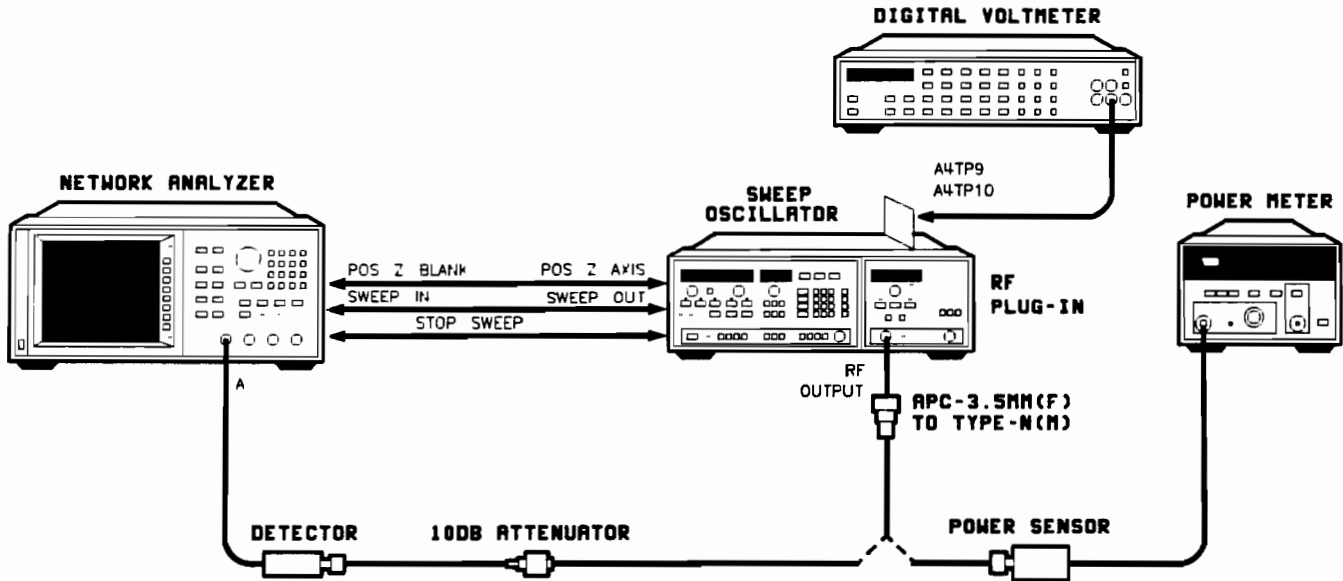

Figure 5-29. ALC Adjustment Test Setup
1. Connect the equipment as shown in Figure 5-29. With AC power off, remove A5 FM driver board. Place A4 assembly on an extender board. Press **[INSTR PRESET]** **[CW]**. Sweep the full range of the plug-in at any leveled power. Preset the following adjustments as indicated: